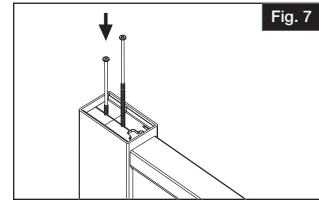

Fig. 7
- 5.** Install two 6" screws (provided) through each upright insert and into the rail (Fig. 7).